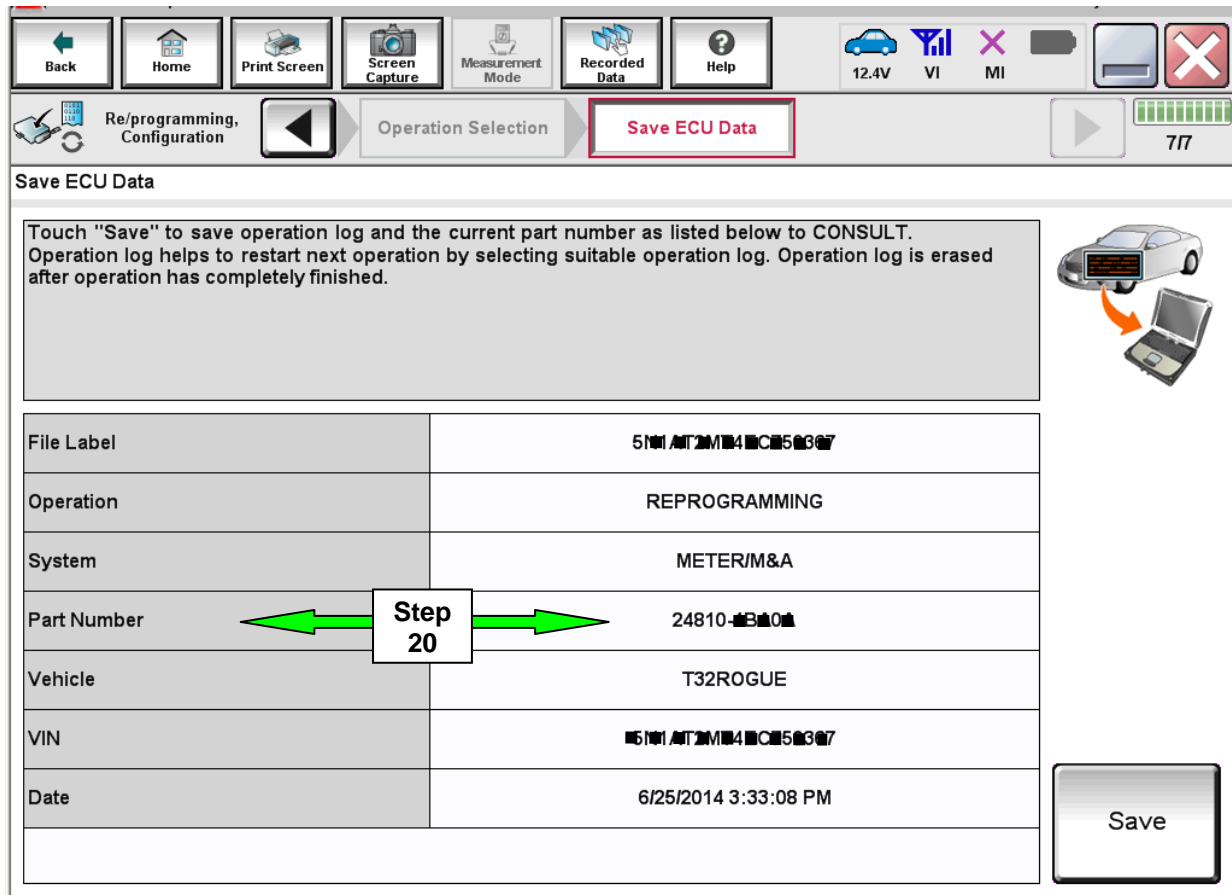

Figure 9
20. When you get to the screen shown in Figure 9, confirm this bulletin applies as follows.